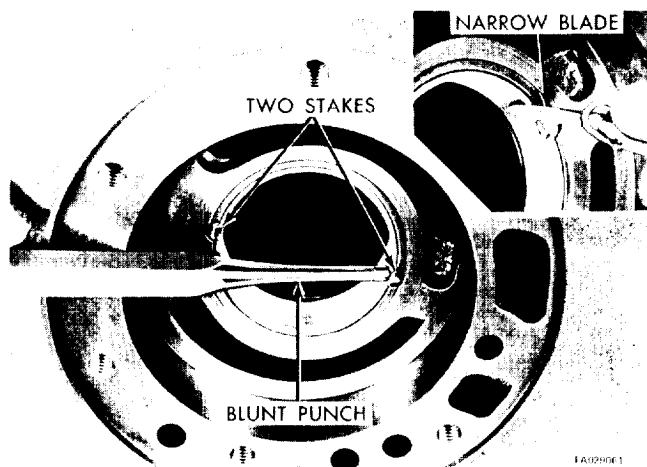

Figure 18-10. Staking Pump Bushing.
(7) Stake the bushing in place by using a blunt punch or similar tool, gently tapping at each stake slot location (figure 18-10).